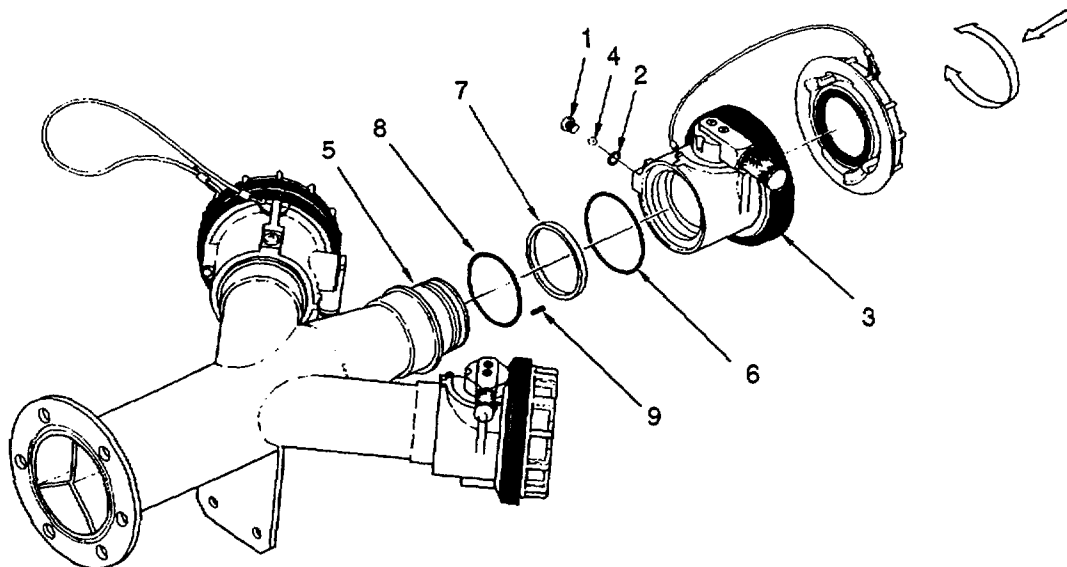

Figure 4-6. Inlet Manifold Unisex Coupling Replacement
4.10.2 Replace Two-Inch Valved Unisex Coupling. (Refer to figure 4-6.)